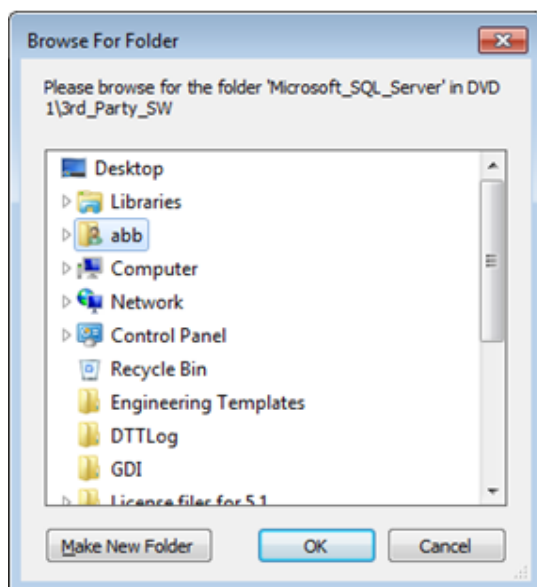

Figure 26. Browse for Folder Dialog Box
- m. A Browse for Folder dialog box similar to the one shown in Figure 26 appears. Browse to the following folder on 800xA System Installation DVD 1: